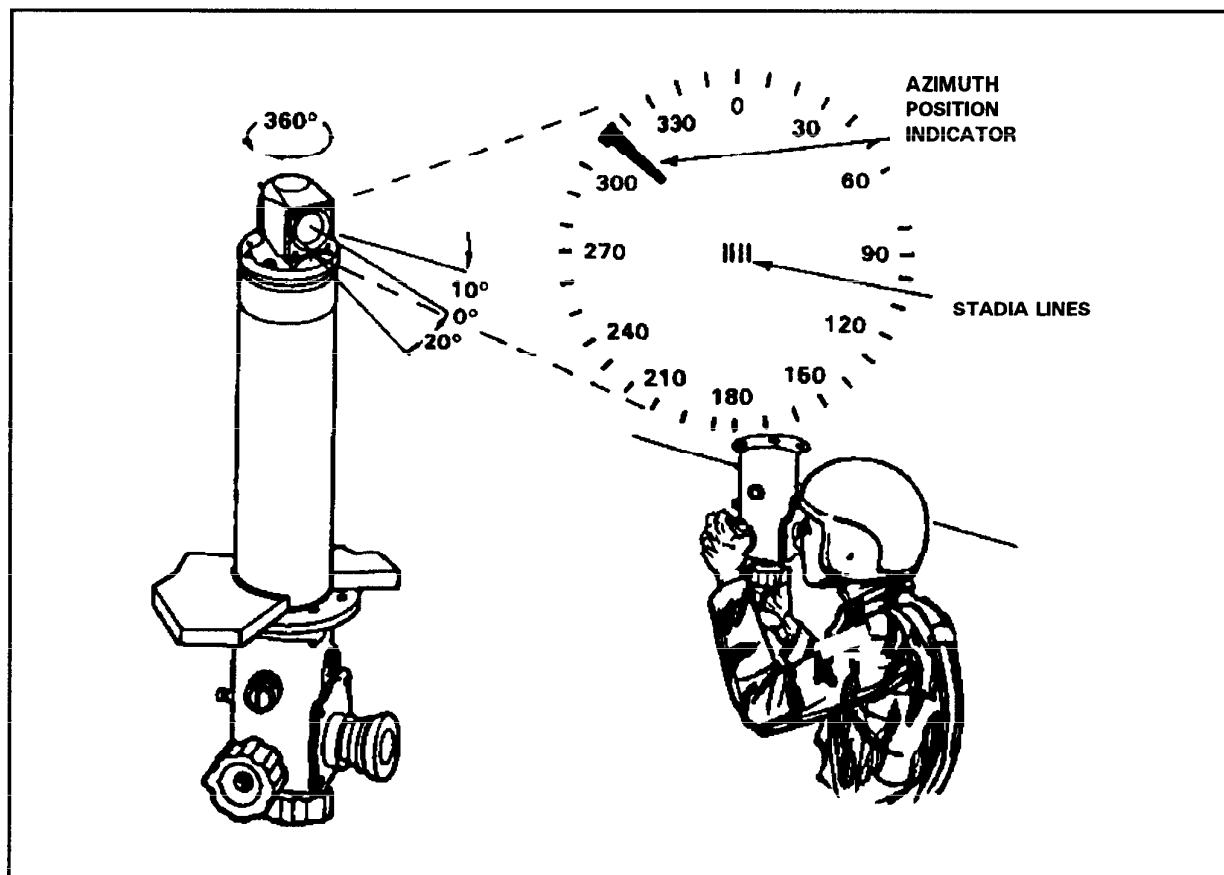

Figure 4-11. Squad leader's periscope.
a. **Description.** The parts of an SLP are a humidity indicator, a focus control ring, the eye cup, the reticle, an azimuth control knob, and an elevation control knob (Figure 4-11, page 4-20).
(1) The humidity indicator contains replaceable desiccant. DA Form 2404 is used to report when the desiccant shows pink.
(2) The focus control ring is directly behind the eye cup. The squad leader turns the focus ring while looking through the SLP to properly focus the image.
(3) The eye cup is an inflated rubber eye protector to protect the eye during use of the SLP.
(4) The SLP reticle is a nonmoveable azimuth scale in degrees. Zero is always to the front of the vehicle. As the SLP is rotated, the azimuth indicator is rotated around the azimuth scale to indicate the direction to the target in relation to the vehicle. Four stadia lines, located in the center of the reticle, are used to compute the estimated range to targets.
(5) The azimuth control knob rotates the SLP in azimuth. The squad leader turns the knob clockwise to rotate the line of sight to the left. (Three rotations of control knob causes the line of sight to rotate 360 degrees in azimuth.)
(6) The elevation control knob is rotated clockwise to raise the line of sight and counterclockwise to lower the line of sight. The full range of motion is 10 degrees above horizontal and 20 degrees below horizontal.